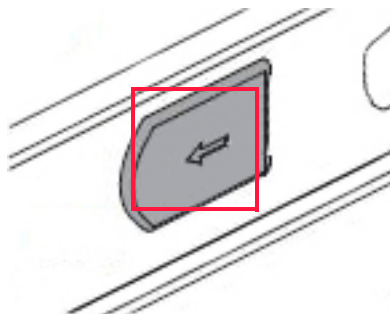

Figure 8.28 Release tab
1. With the enclosure in the serviceable position, press the release tab on each inner chassis member rail (shown in Figure 8.28 on page 117) to release the rail from the serviceable position, and simultaneously push the enclosure into the rack.